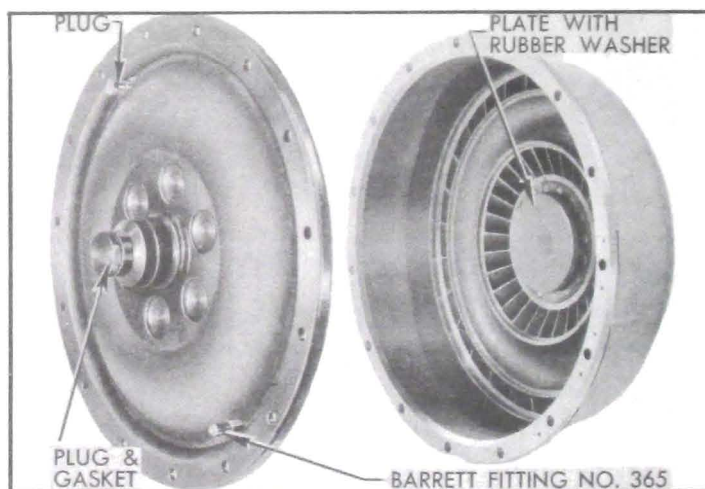
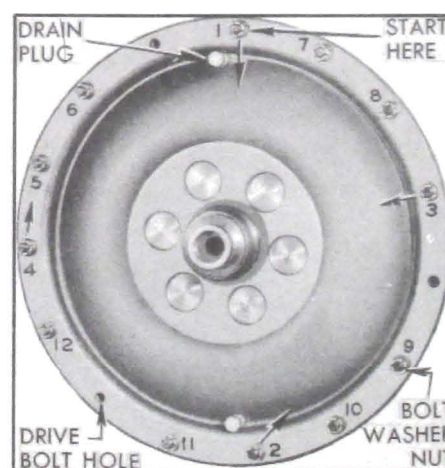

Figure 4-22—Plate and Plugs Installed in Pump and Cover
Figure 4-34—Bolt Tightening Sequence
2. Install plate with washer over inside surface of pump hub (fig. 4-22), then install pump cover with seal and tighten all bolts to 25-30 ft. lbs. torque in sequence shown in figure 4-34.
3. Install large plug with gasket in hub of pump cover, install one drain plug, and install a Barrett fitting No. 365 in other drain hole. Tighten all parts securely. See figure 4-22.
14. Install bolts with plain washers and special nuts in all but the three driving bolt holes, insert the shank of a  $1\frac{1}{32}$ " drill through one bolt hole to align all holes, then tighten bolts to approximately 5 ft. lbs. torque in numerical sequence shown in figure 4-34. Finally tighten bolts in same sequence to 25-30 ft. lbs. torque.